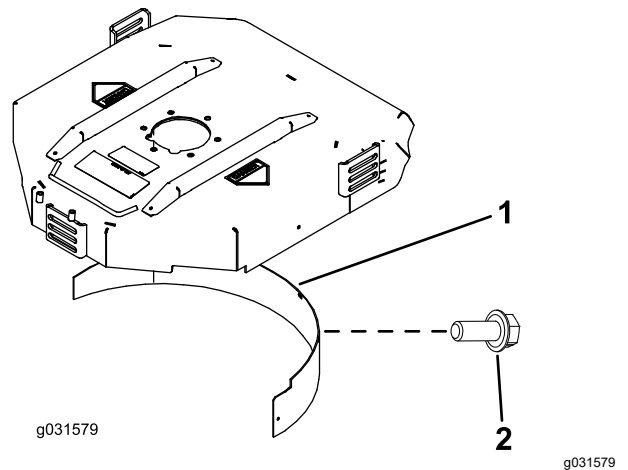

Figure 22
2. Install the mulching baffle in the rear opening and secure it with 5 flange-head bolts (Figure 22).